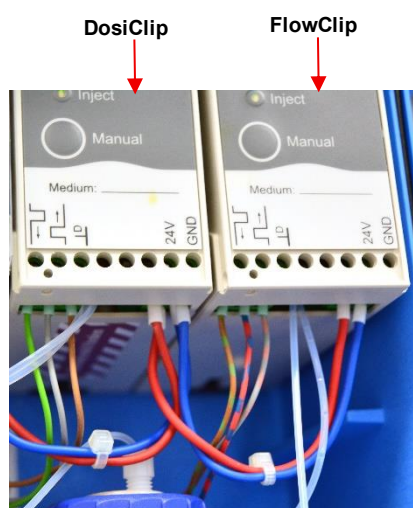

Figure 3
9. Connect the two red wires to the +24V terminal (1) of the DosiClip as follows. Refer to Figure 3 for guidance.
10. Proceed with the blue wire at the GND terminal (2) of the DosiClip as described in point 9..